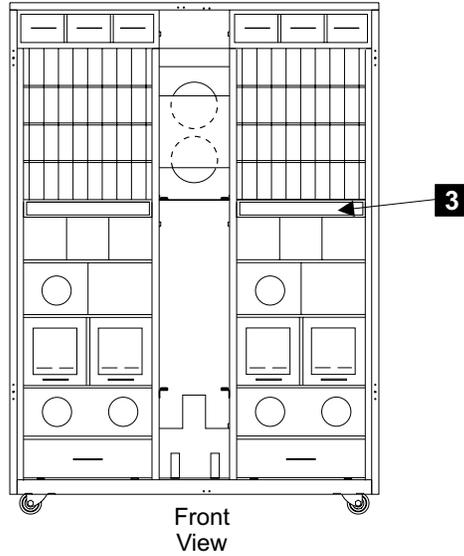

Figure 260. Storing the Service Terminal Table (S008608m)
- ___ 14. Push the service terminal table **3** [Figure 260] in until the latches on each side engage the frame on both sides.